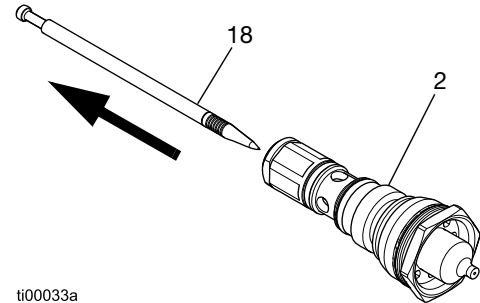

FIG. 29: Fluid Cartridge and Fluid Needle
- Install the needle (18) into the fluid cartridge. See FIG. 29.